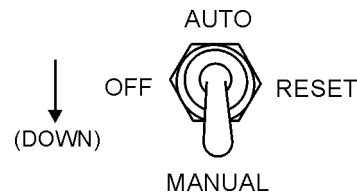

Figure 36. Off/Manual/Auto Switch (Manual)
7. Place the Off/Manual/Auto switch (Figure 36) in the **MANUAL** position (down). Observe that the engine begins to crank.